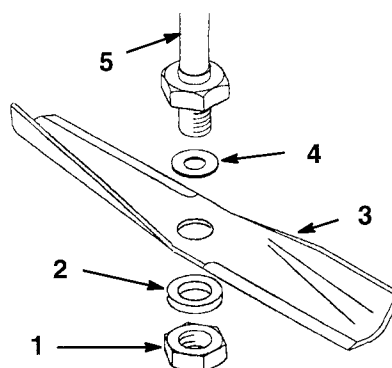

Figure 19
3. Remove the nut, flat washer, blade, and washer (Fig. 19). A block of wood may be wedged between the blade and the mower to lock the blade when you are removing the bolt.